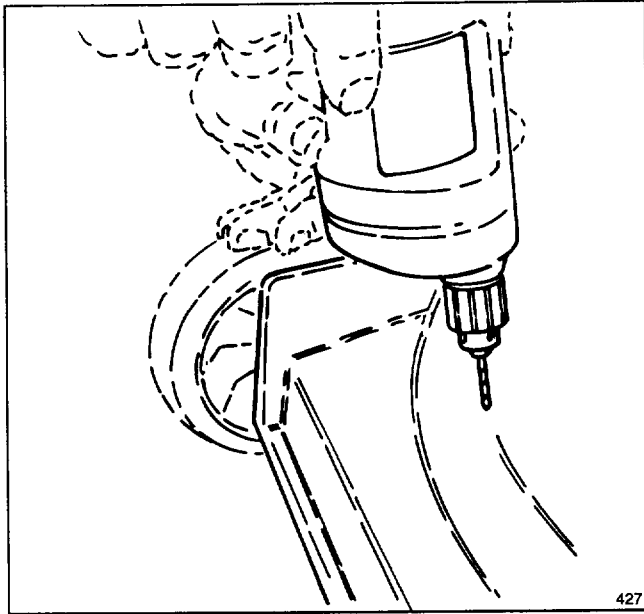

Figure 11
6. Using a sharp 13/64" metal drill bit, drill holes in deck (Fig. 11). Drill bit must be sharp to prevent it from walking.